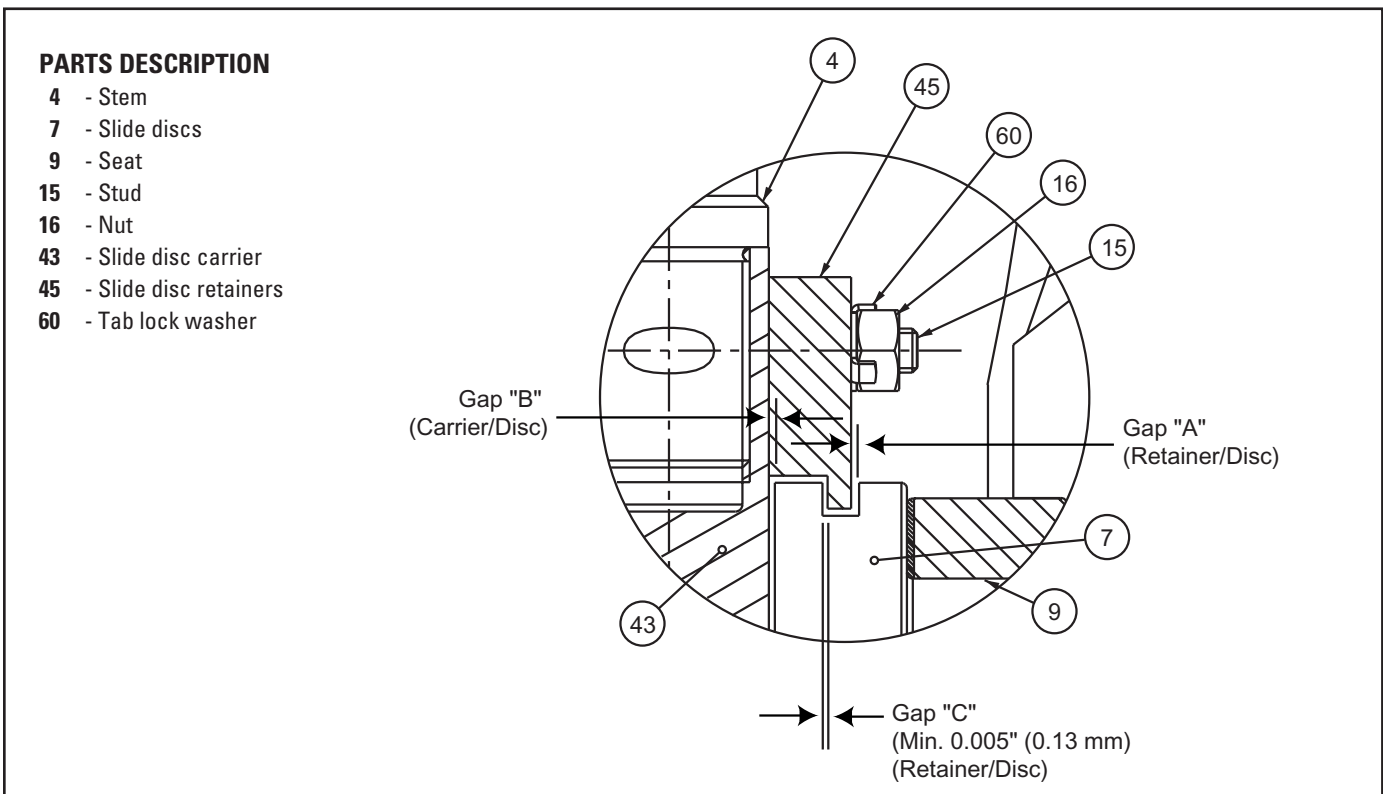

Figure 8.5B Check for gap disc / disc carrier and retainer plate
3. Check disc/disc carrier/retainer plate for proper gap allowance refer to *Fig. 8.5B*
4. Install new gasket (19). For corrugated steel with graphite strips gasket and spiral wound gasket, body and bonnet flange surface must be completely cleaned and free of oil and grease.